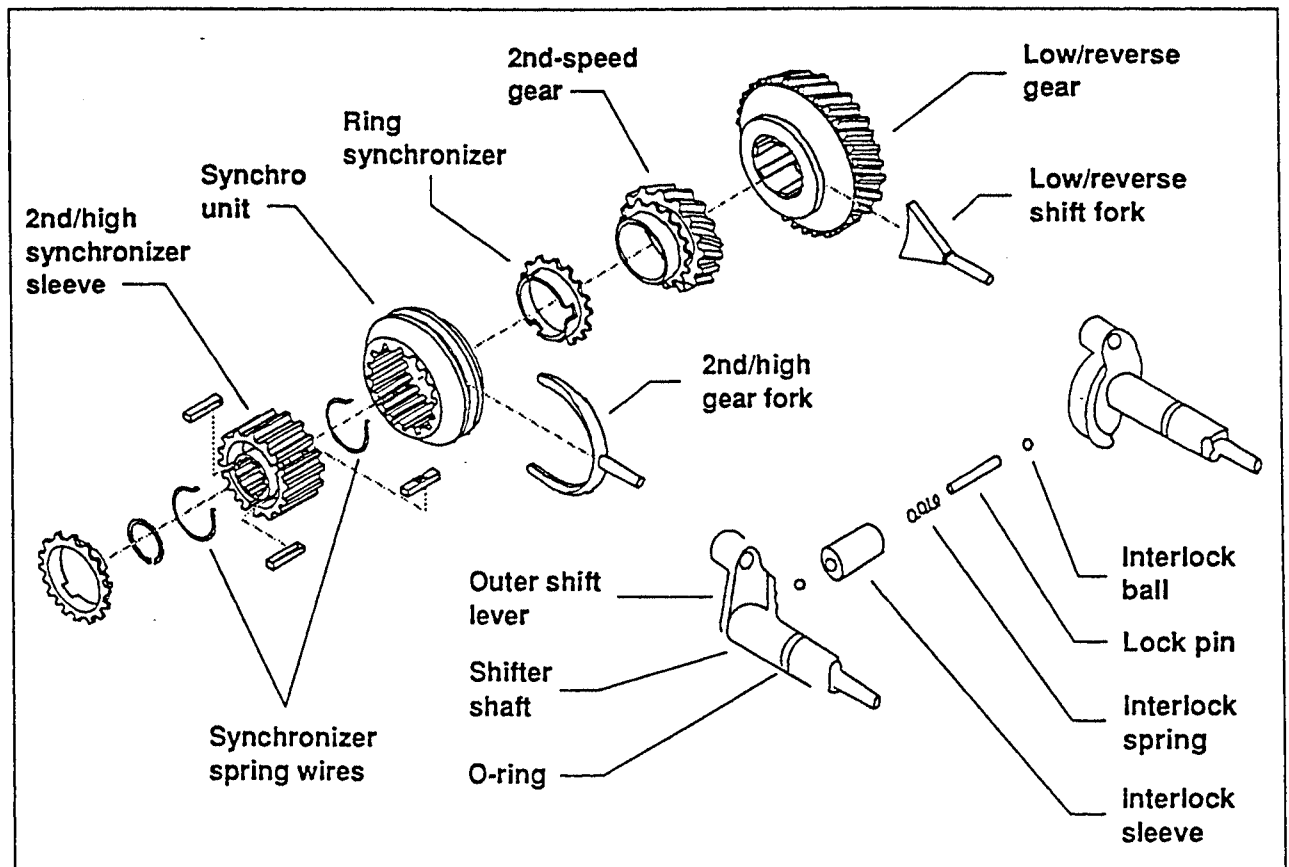

Figure 37 Shifter gear assembly
- 12** Remove the second/high gear fork (Figure 37).
- 22** Remove the outer shift levers and lock pin (Figure 37).
- 23** Slowly remove the shifter shafts from the transmission case and catch the two interlock balls (Figure 37).
Carefully inspect the synchronizer unit, synchronizer rings, and synchronizer spring wires. Slide the rings and wires into the synchronizer unit and clutch shaft. Replace the rings if there is excessive wear or if the taper is pitted (Figure 37).
**1** Install new O-rings onto shifter shaft (Figure 37).
**2** Install both outer shift levers (Figure 37).
**3** Install interlock sleeve, interlock balls, lock pin and interlock spring (Figure 37).
**5** Install reverse idler gear with the chamfered side facing the front of the transmission case (Figure 37).
**8** Install both shift forks (Figure 37).
**9** Slide the 1st/reverse-speed gear onto the mainshaft (Figure 37).
**10** Install the 2nd/high-speed gear and the synchro unit onto the mainshaft (Figure 37).
**11** Install the synchro unit snap ring on the front end of the mainshaft (Figure 37).